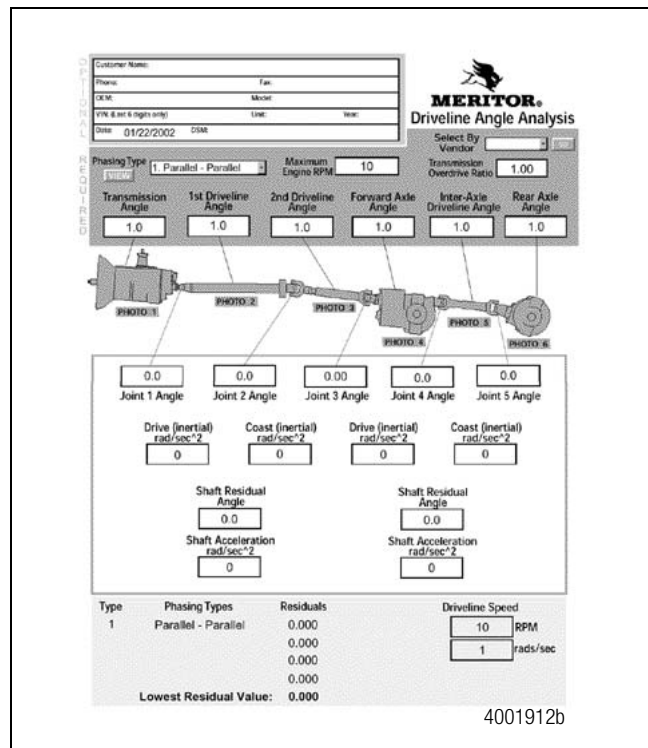

Figure 13.24
1. Enter the following optional information in the appropriate fields at the top of the screen. Figure 13.24.
2. Enter the maximum engine RPM. Figure 13.24.
3. Enter the transmission overdrive ratio. This value should be less than 1. For direct drive applications, enter 1. Figure 13.24. Click the **Select By Vendor** pull-down menu. Click on the **GO** button. The screen will display lists of transmissions by manufacturer. You can select your specific transmission model and ratio from these lists.